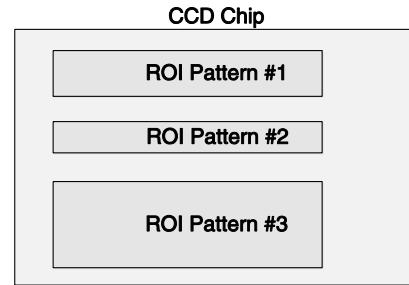

Figure 128. Spectroscopy Mode
4. Defining the region with the mouse and then changing parameter values via the keyboard before storing the pattern. This allows you to change a full-width ROI created by mouse selection to a partial-width ROI like the one in Figure 128.